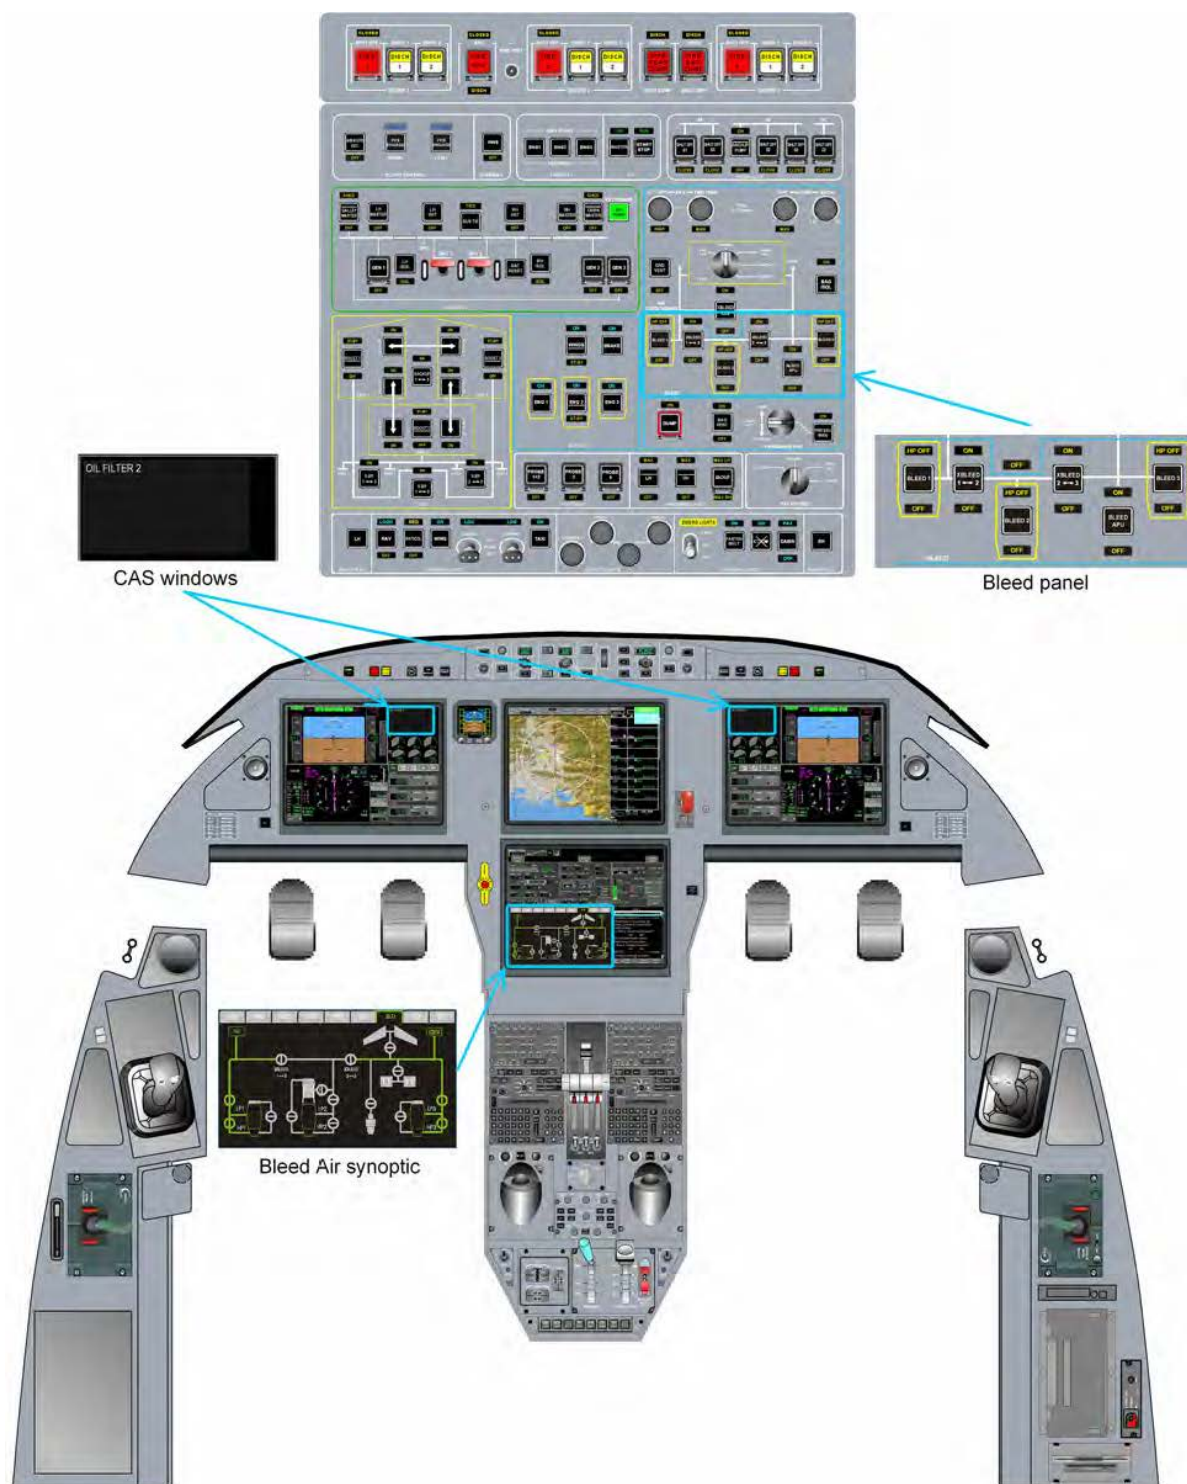

Figure 16 FLIGHT DECK BLEED AIR SYSTEM
Crew control of bleed air system is performed via The BLEED panel on the Overhead Panel (OP). See Figure 16 FLIGHT DECK BLEED AIR SYSTEM.